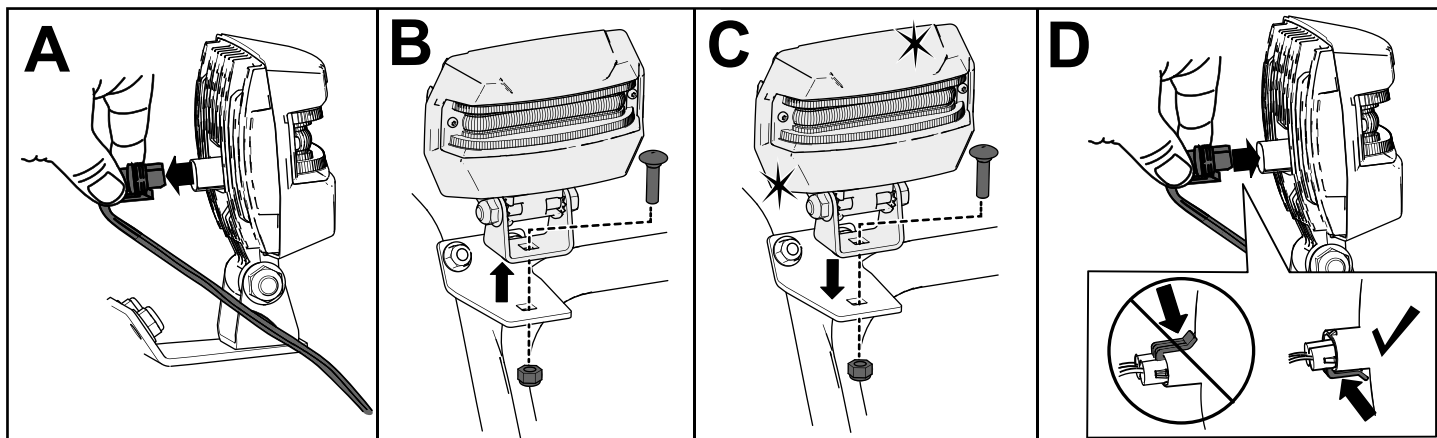

Figure 47
1. Remove the headlight wire from the back of the headlight (A of Figure 47).
2. Remove the bolt and nut holding the headlight assembly onto the headlight bracket and then remove the old headlight assembly (B of Figure 47).
3. Secure the new headlight assembly onto the headlight bracket with the previously removed nut and bolt (C of Figure 47).
4. Insert the headlight wire straight into the back of the headlight until it is securely in place (D of Figure 47).